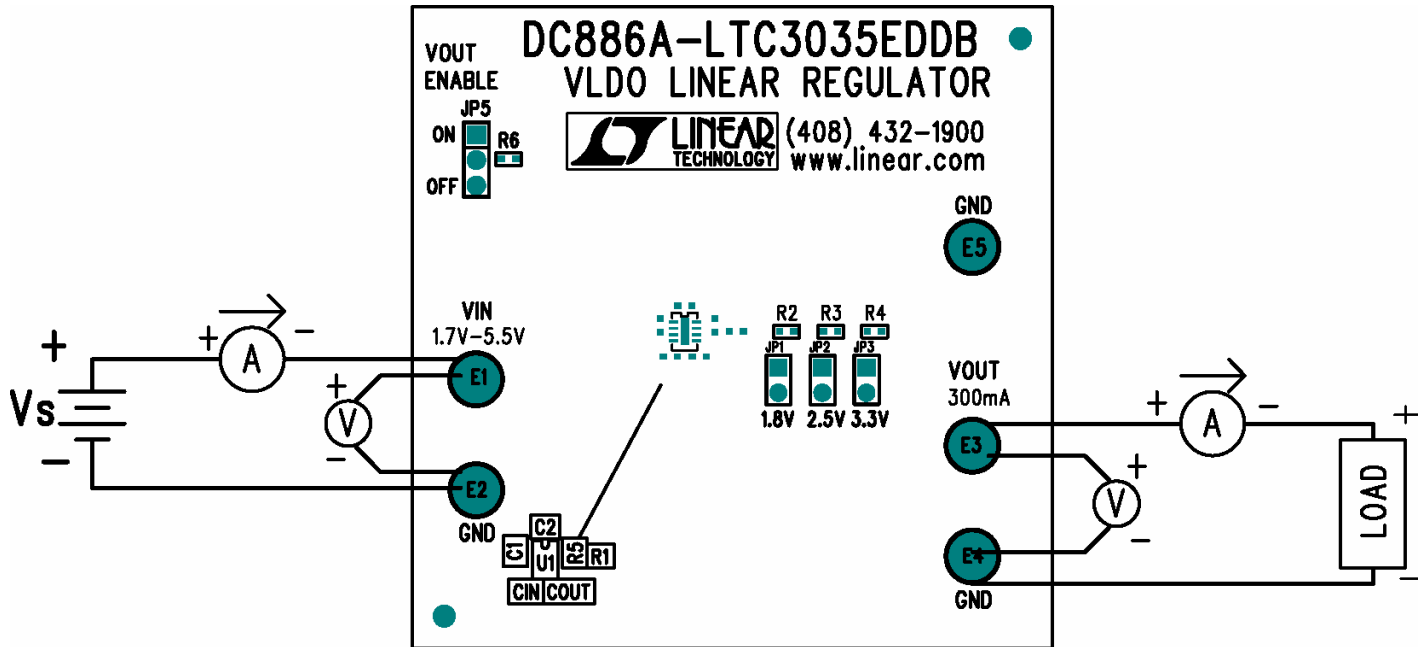

Figure 1. Proper Measurement Equipment Setup
The DC886 demonstration board is easy to set up to evaluate the performance of the LTC3035. For proper measurement equipment configuration, set up the circuit according to the diagram in **Figure 1**. Before proceeding to test, insert jumper JP5 shunt into the off (lower) position, connecting the RUN pin to ground (GND), which shuts down the circuit.
1. Connect the input power supply and the load to the board. Do not hot-plug V_{IN} or increase V_{IN} over the rated maximum supply voltage of 5.5V, or the part may be damaged. Refer to Figure 1 for the proper measurement equipment setup.